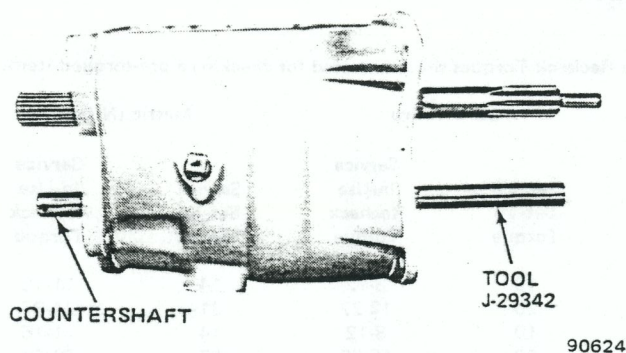

Fig. 2B-25 Countershaft Removal/Installation
(10) Remove locating ring and retaining snap ring from front bearing (fig. 2B-27).